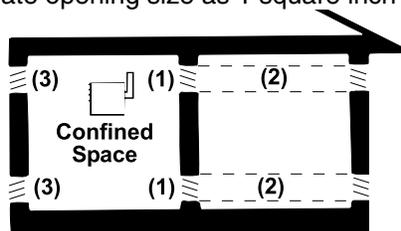

Figure 4. Required Openings for Combustion Air
For confined space installation of unit heater models APD, UDAP, and UDBP (including those with CV option), provide openings (depending on the combustion air source) near the floor and ceiling for ventilation and air for combustion, as shown in Figure 4.
Add the total BTU_h of all appliances in the confined space and calculate the size of each top and bottom opening as follows (note that (1), (2), and (3) refer to Figure 4):
- (1) Air from inside the building: calculate opening size as 1 square inch free area per 1,000 BTU_h (never less than 100 square inches of free area for each opening).
- (2) Air from outside through the duct: calculate opening size as 1 square inch free area per 2,000 BTU_h.
- (3) Air direct from outside: calculate opening size as 1 square inch free area per 4,000 BTU_h.